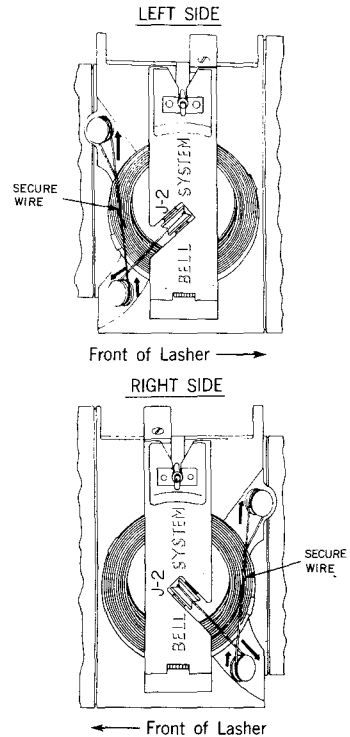

Fig. 2—Threading J Cable Lasher
- (3) Close the cover latch and tighten the wing nut until the cover contacts the coil slightly.
- (4) Cut the two remaining bindings and remove them. (If portions of the bindings are not removed, they may cause snagging of the lashing wire.)
- (5) Tighten the wing nut by hand. Do not use pliers.
- (6) Thread the lashing wire around the snubbing pulleys in the direction of the indicating arrows and wind the free end of the lashing wire as illustrated in Fig. 2. The lashing wire should not project or dangle from the lasher.